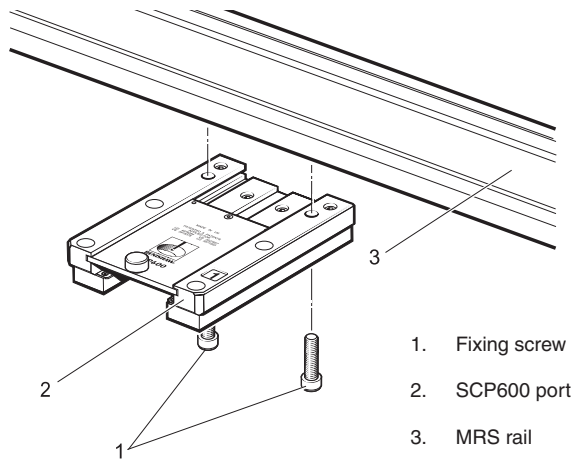

Figure 2 - Fitting a SCP600 port to the MRS rail
1. Insert one of the fixing screws [1] through the SCP600 port [2] as shown in figure 2.
3. Insert the other fixing screw [1] through the SCP600 port [2] as shown in figure 2.